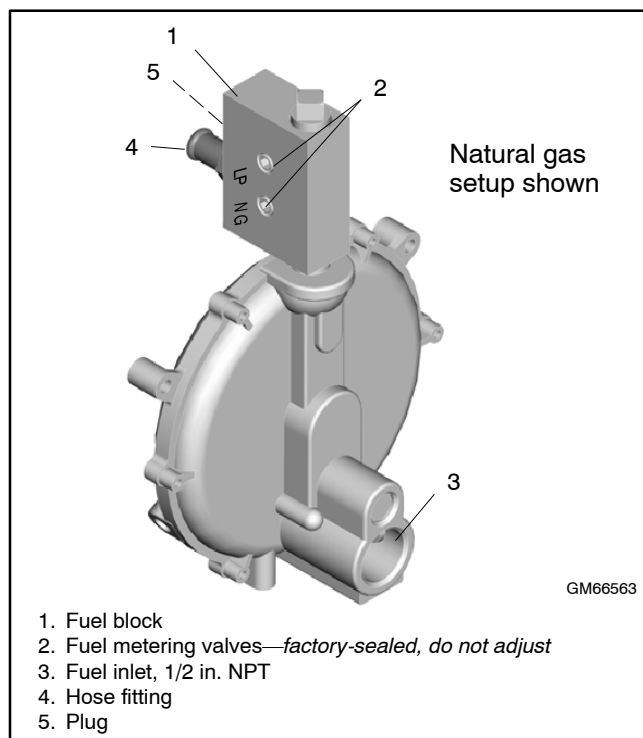

Figure 5-32 Fuel Block, 14RES/RESL
5. Remove the hose clamp and fuel hose from the hose fitting in the fuel block. See Figure 5-32.
6. Remove the hose fitting from the natural gas outlet port in the fuel block. See Figure 5-32.
7. Remove the plug from the LP port in the fuel block. See Figure 5-32.
The fuel system is factory-adjusted to comply with applicable emission standards and to provide the best possible hot and cold starting. The fuel metering valves are sealed to prevent field adjustments. If the fuel metering valve requires adjustment, do not break the seals on the factory-installed fuel metering valve. Obtain a new fuel metering valve to replace the factory-installed valve, and adjust the fuel mixture according to the instructions in this section. See Figure 5-32 for the fuel metering valve location. Refer to the generator set Parts Catalog for the fuel metering valve part number.